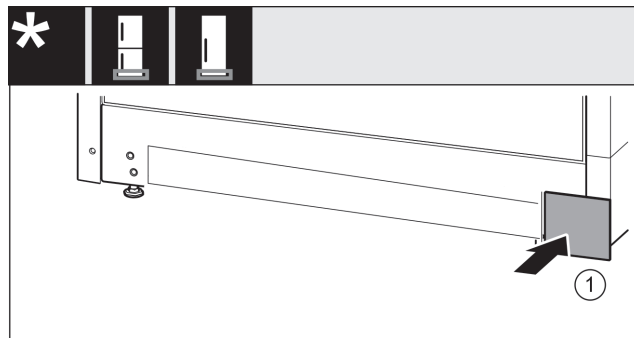

Fig. 18
- Re-attach the cover *Fig. 18 (1)* on the other side.